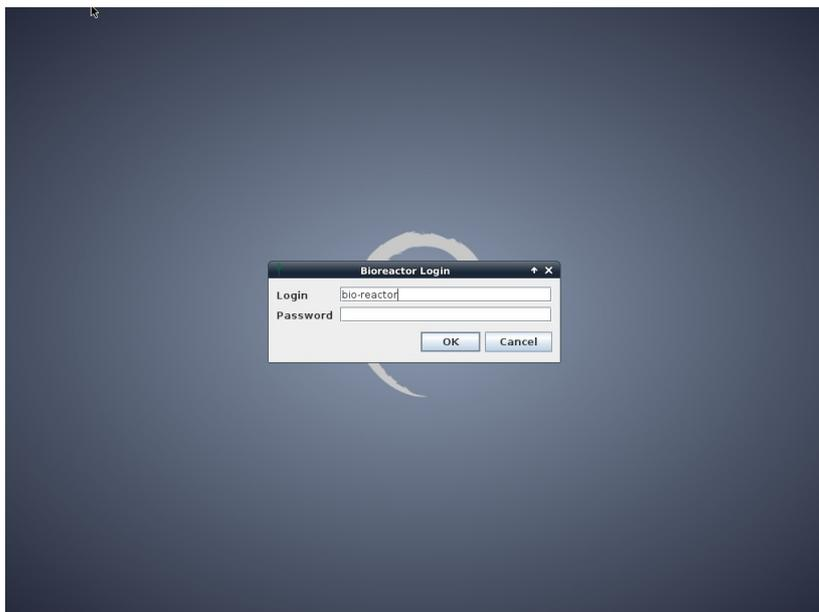

Fig. 59: Debian desktop with bioreactor GUI login
- After successful installation the computer should boot into Bioreactor client login screen (Fig. 59)